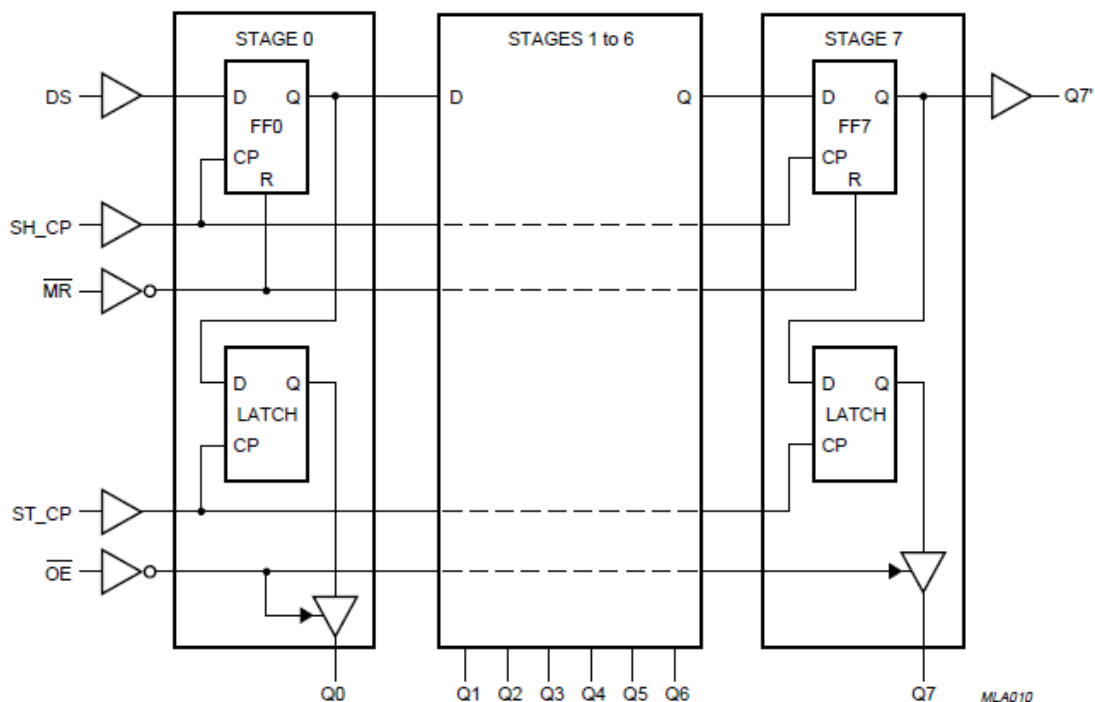
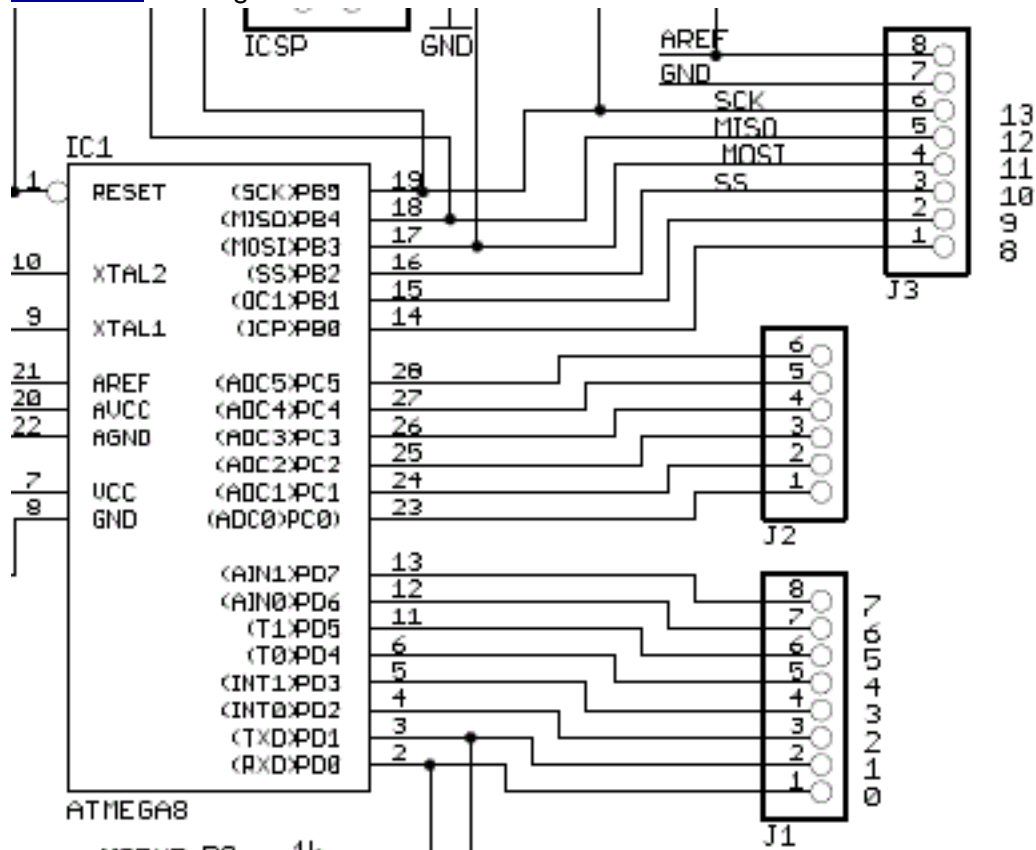
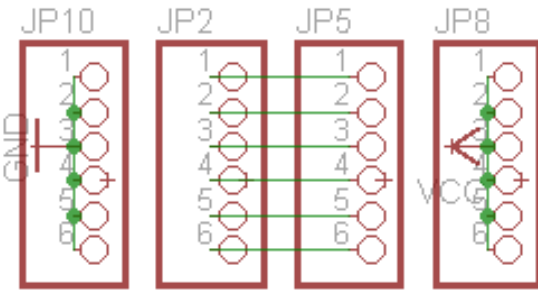

Figure 3 74HC595 Logic Diagram
Figure 4 ATmega 328P Pin-out to the Arduino Duemilanove Digital and Analog Pin-out
Figure 5 AdaFruit Motor Shield Jumper J2 (incorrectly labeled JP2)
To go between the ATmega328P and Arduino naming conventions use the Arduino 2009 schematic and Figure 3.
- PORTC bits 0 to 5 map to analog pins 1 to 6; PortC bit 7 is not supported by the ATmega328P. The Adafruit motor shield does not use these I/O bits, but they have made them available to us. These are great for adding sensors to your project. The pins are wired to Jumper JP5 as shown in the schematic and Figure 5. Jumper JP2 in Figure 3, is incorrectly labeled and should be J2 as shown in Figure 4. You can find them on your board labeled A0-5.